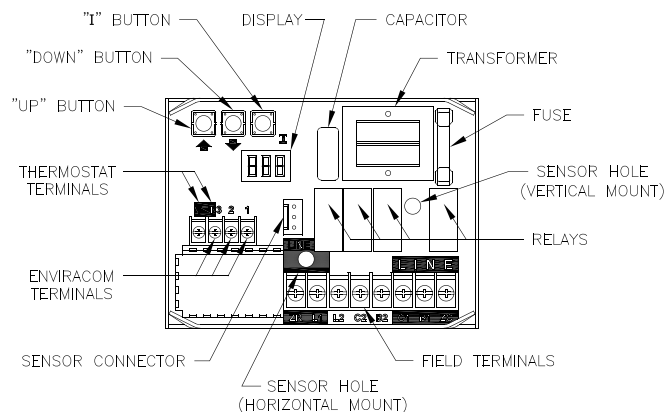

Figure 30: Intelligent Oil Boiler Control
- b. The boiler's sequence of operation is shown as Status Codes on Boiler Control display. See Table 7 and Figure 30.
- d. If the thermostat is not satisfied and the Operating Setpoint (SP) is reached the system circulator will continue to operate and the burner will stop. When the boiler water temperature drops below the setpoint less the differential setting the burner will restart.
- g. On burner start, if the CAD cell does not see flame within approximately 15 seconds, primary control will shut down the burner and enter into a lockout mode. A lockout is reset by pressing the reset button located on the primary control. If the flame is lost while the burner is firing, the primary control shuts down the burner, enters a 60 second recycle delay, and repeats the ignition sequence. If after three (3) trials for ignition, flame is not detected, primary control will enter into restricted mode. Restricted mode is reset by holding down the reset button for 15 seconds.